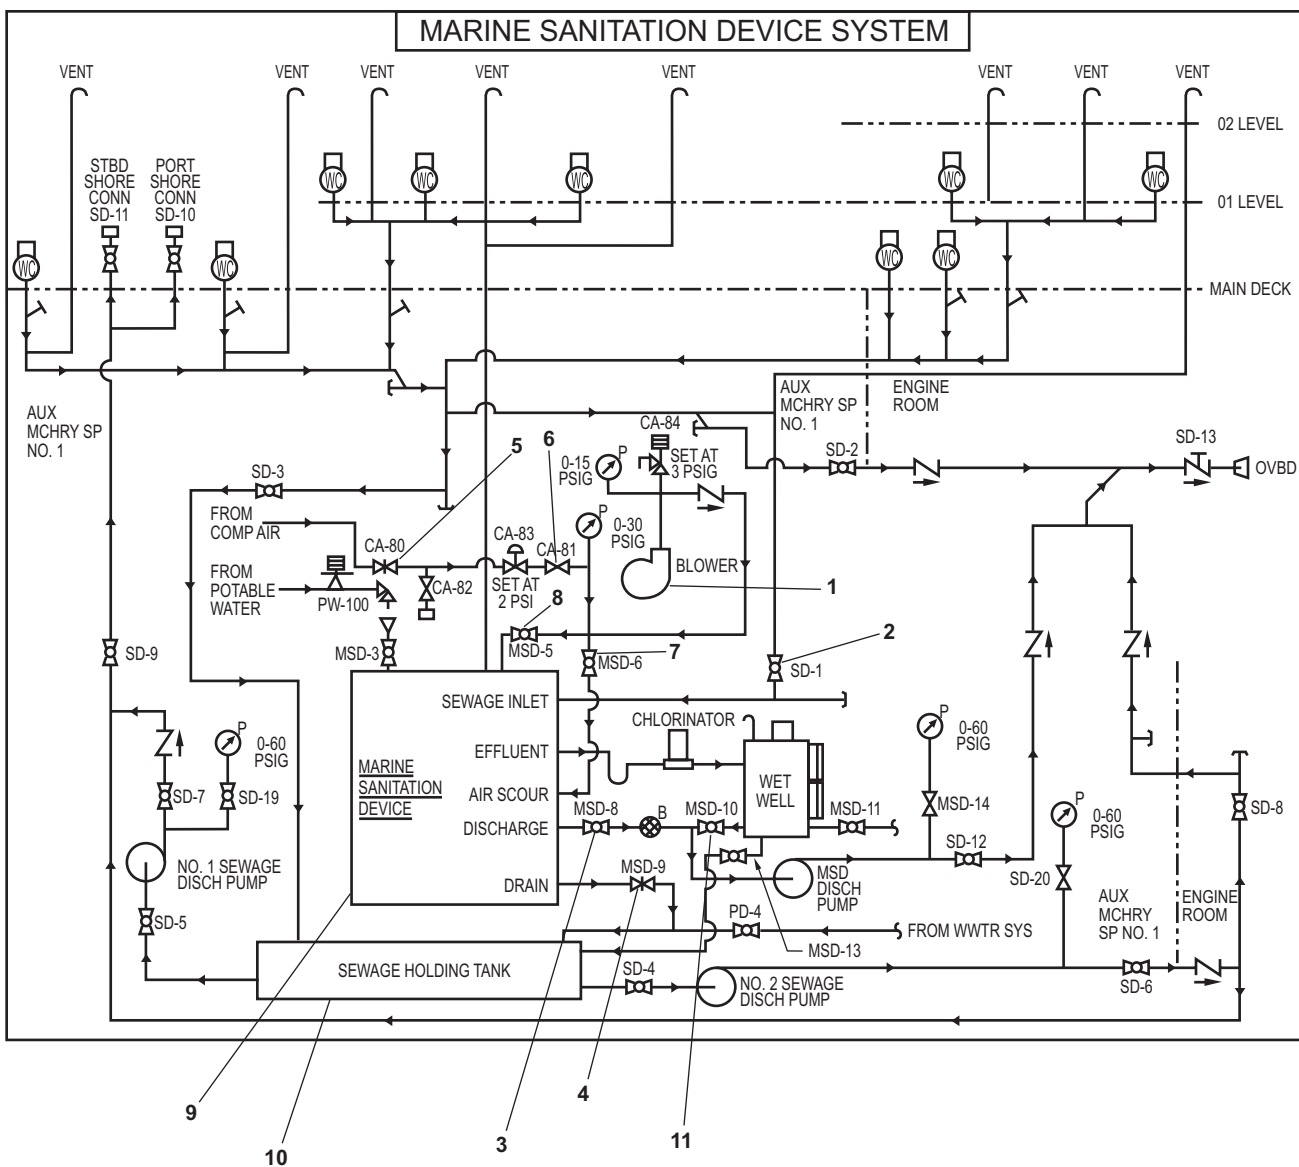

Figure 4. MSD Piping and Valves Schematic
3. Verify that the blower (figure 4, item 1) has stopped.
4. CLOSE valve SD-1 SEWAGE INLET TO MSD (figure 4, item 2).
5. CLOSE valves MSD-8 MEDIA TANK PUMP-OUT DR (figure 4, item 3) and MSD-9 MEDIA TANK DRAIN (figure 4, item 4).
6. CLOSE valves CA-80 COV-LP AIR (figure 4, item 5) and CA-81 LP AIR SHUTOFF (figure 4, item 6).
- 7. OPEN valve MSD 6 BLOWER DISCH TO AIR SCOURING SOV (figure 4, item 7).
- 8. CLOSE valve MSD 5 BLOWER DISCHARGE SHUTOFF (figure 4, item 8)
- 10. Verify that the blower (figure 4, item 1) has started and is supplying 2 PSI (0.138 bar) to the media tank (figure 4, item 9).
11. Allow the air to scour the bottom of the media tank (figure 4, item 9) for at least 30 minutes.
13. Verify that the blower (figure 4, item 1) has stopped.
14. CLOSE valve MSD-6 BLOWER DISCH TO AIR SCOURING SOV (figure 4, item 7).
15. OPEN valve MSD-9 MEDIA TANK DRAIN (figure 4, item 4) and drain the contents of the media tank (figure 4, item 9) to the sewage holding tank (figure 4, item 10).
16. Allow the media tank (figure 4, item 9) to drain for a minimum of 30 minutes.
17. CLOSE valve MSD-9 MEDIA TANK DRAIN (figure 4, item 4).
19. OPEN valve SD-1 SEWAGE INLET TO MSD (figure 4, item 2).
2. OPEN valve MSD-9 MEDIA TANK DRAIN (figure 4, item 4) and empty the clean water from the media tank (figure 4, item 9) into the sewage holding tank (figure 4, item 10).
4. Verify that valve MSD-5 BLOWER DISCHARGE SHUTOFF (figure 4, item 8) is CLOSED and that the blower (figure 4, item 1) is not operating.